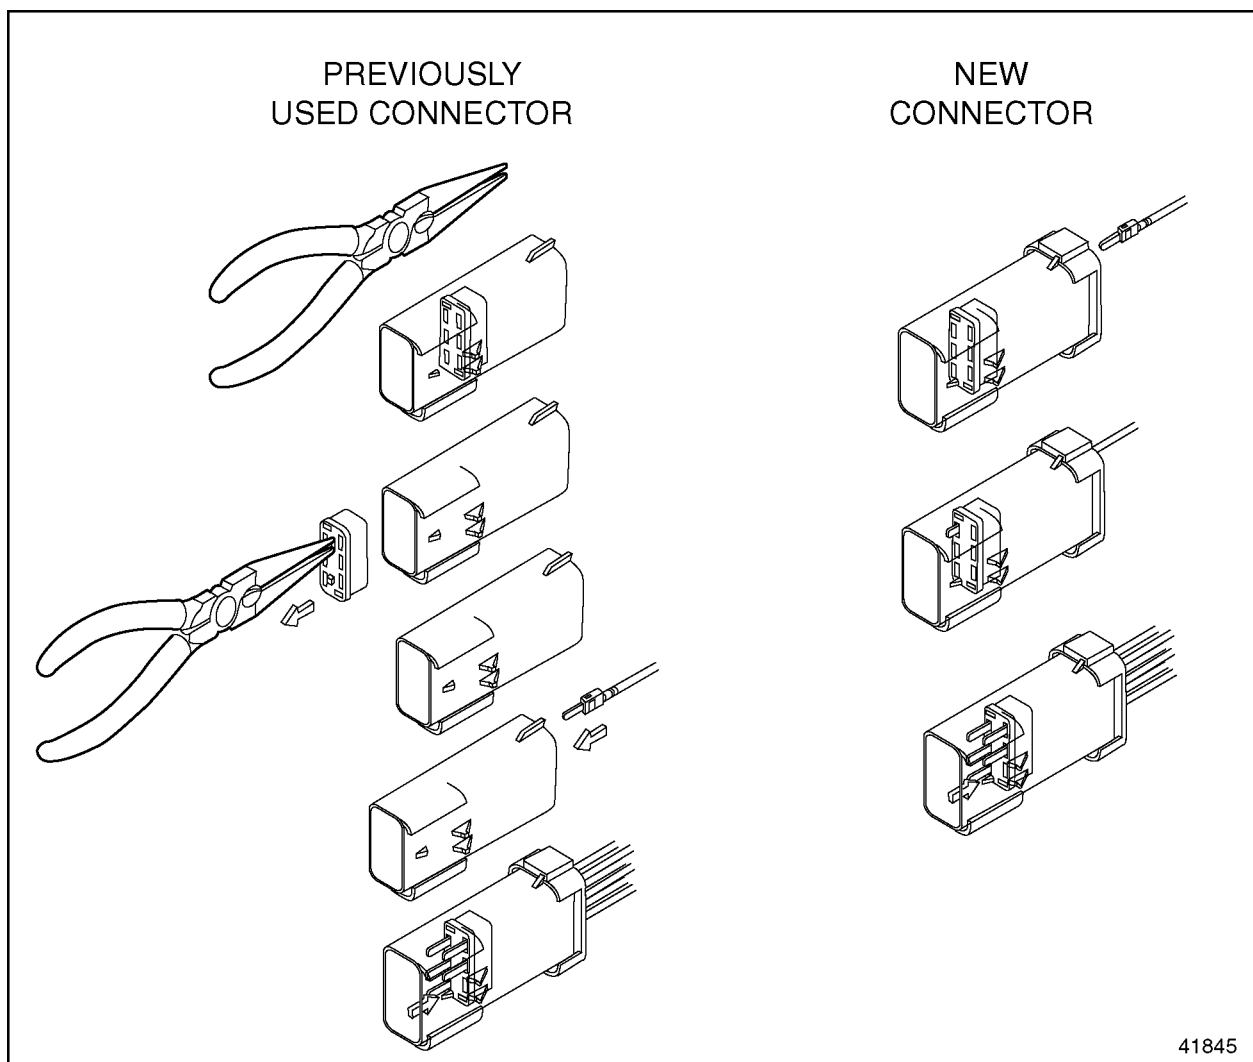

Figure 16-35 Installing the FCI Male Terminal
- [b] If the connector is used, pull the TPA out (see Figure 16-35).
2. Insert the crimped terminal into the connector until it clicks (see Figure 16-35). The orientation of the terminal is not critical.